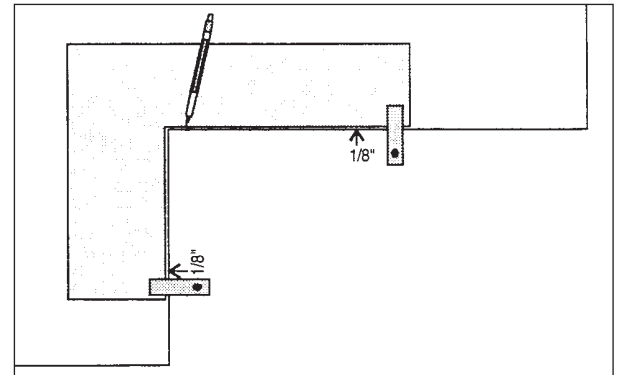

FIG 17A
**FAB TIP:** Make sure you are 1/8" from the edge of the counter on both sides of template. (FIG. 17A)
Clamp template into place. Using a mechanical pencil trace a line on the inside of the template. (FIG. 17A)
Take straight edge and align it with pencil mark on countertop. (FIG. 17A)